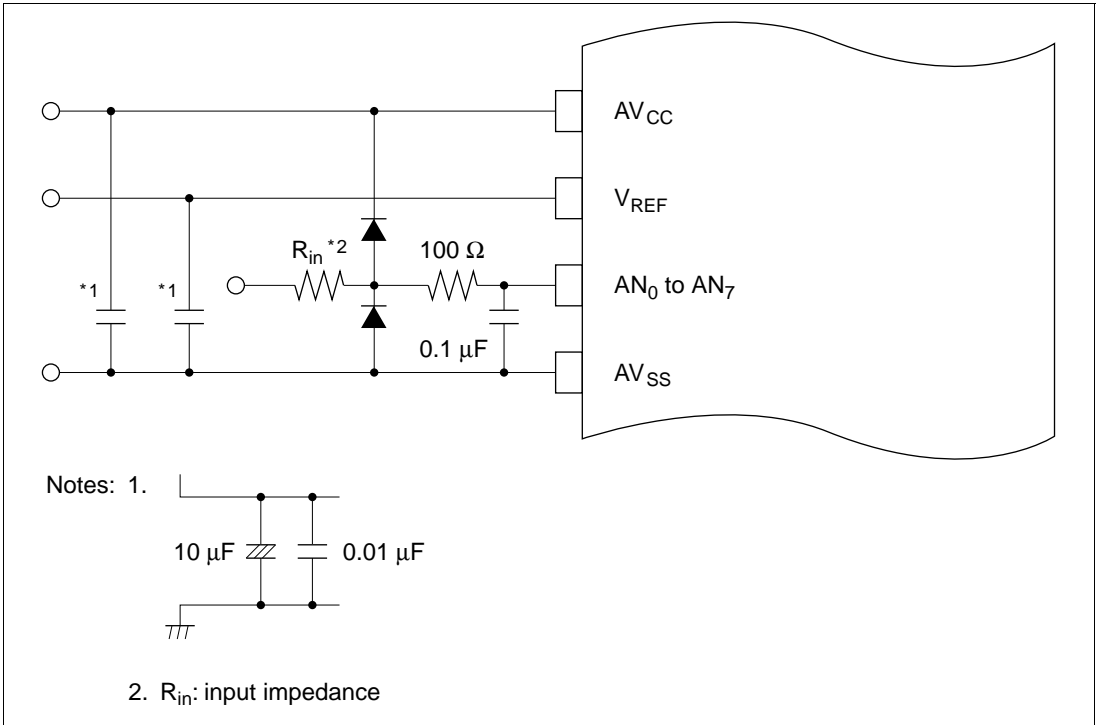

Figure 14.7 Example of Analog Input Protection Circuit
5. **Note on Noise:** To prevent damage from surges and other abnormal voltages at the analog input pins (AN_0 to AN_7) and analog reference voltage pin (V_{REF}), connect a protection circuit like the one in figure 14.7 between AV_{CC} and AV_{SS} . The bypass capacitors connected to AV_{CC} and V_{REF} and the filter capacitors connected to AN_0 to AN_7 must be connected to AV_{SS} . If filter capacitors like the ones in figure 14.7 are connected, the voltage values input to the analog input pins (AN_0 to AN_7) will be smoothed, which may give rise to error. Error can also occur if A/D conversion is frequently performed in scan mode so that the current that charges and discharges the capacitor in the sample-and-hold circuit of the A/D converter becomes greater than that input to the analog input pins via input impedance (R_{in}). The circuit constants should therefore be selected carefully.